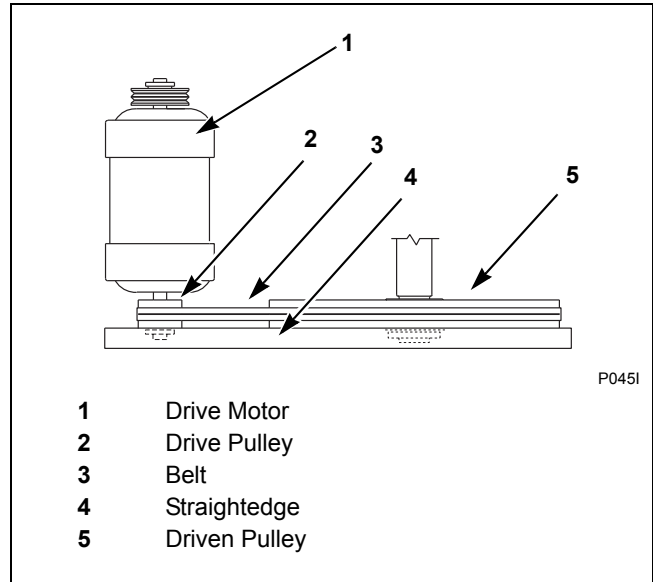

Figure 21
- b. Verify that V-belts are properly aligned by checking pulley alignment. Place a straightedge across both pulley faces. The straightedge should make contact with the pulleys in four places. Refer to *Figure 21*.